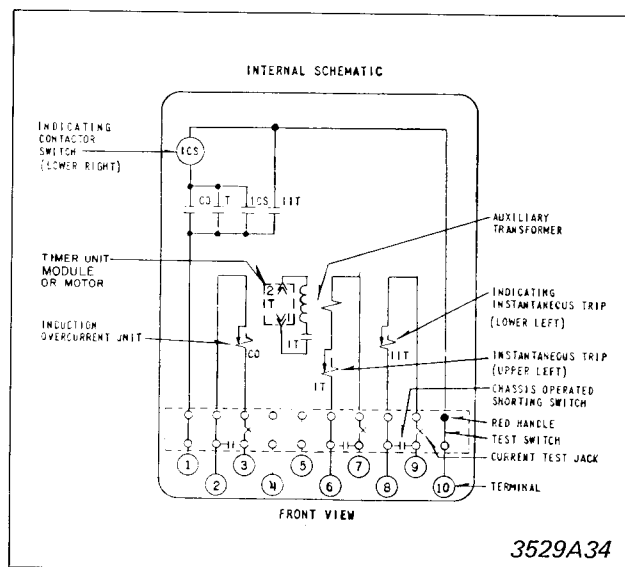

Fig. 1. Internal Schematic of the Type CO-4 Relay in Type FT-21 Case.
The type CO-4 relay consists of an overcurrent unit (CO-5), an indicating contactor switch (ICS), an indicating instantaneous trip (IIT) mounted on the left hand pedestal, an instantaneous trip (IT) and a timer (T). The timer may be either electro-mechanical with a synchronous motor or solid state with an RC timing circuit. (See Fig. 1.)